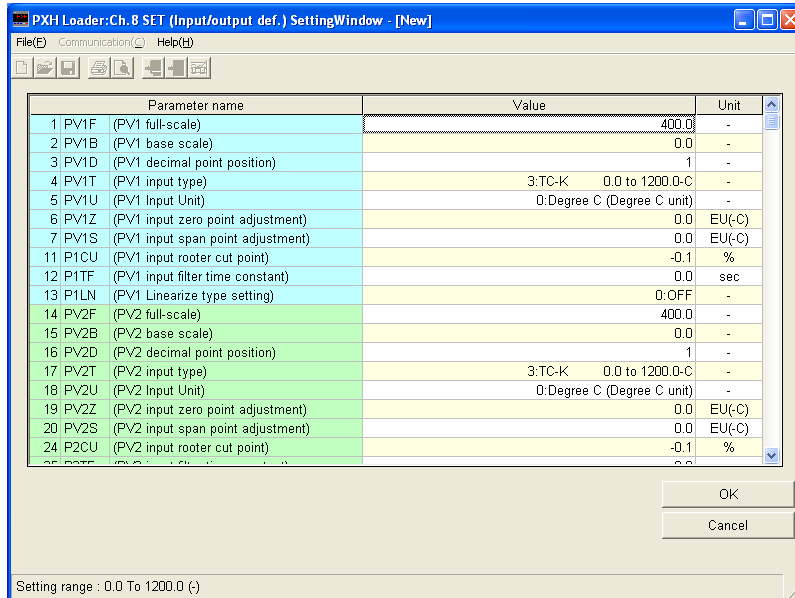

Fig. 6-3 Ch. 8 (Input/output definition) Setting Window
- (2) Click on a desired control type name out of templates of Template selection. The selected template will appear in the lower of the window. Clicking on [OK] button enters the template to use, and displays [Ch. 8 (Input/output definition) Setting Window] Fig. 6-3).